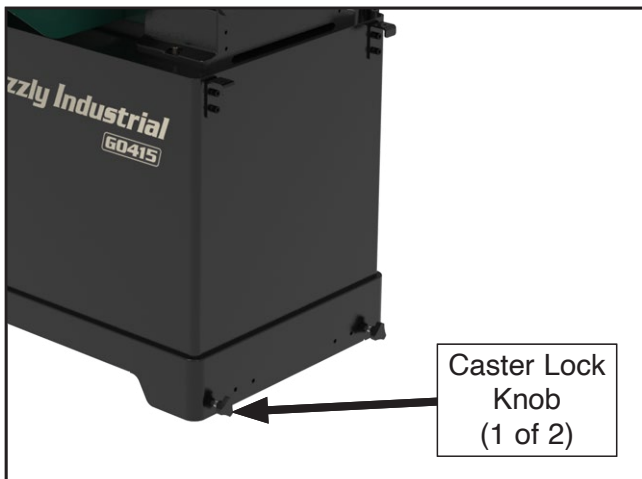

Figure 17. Location of caster lock knobs.
- Loosen caster lock knobs (see **Figure 17**) to unlock casters.